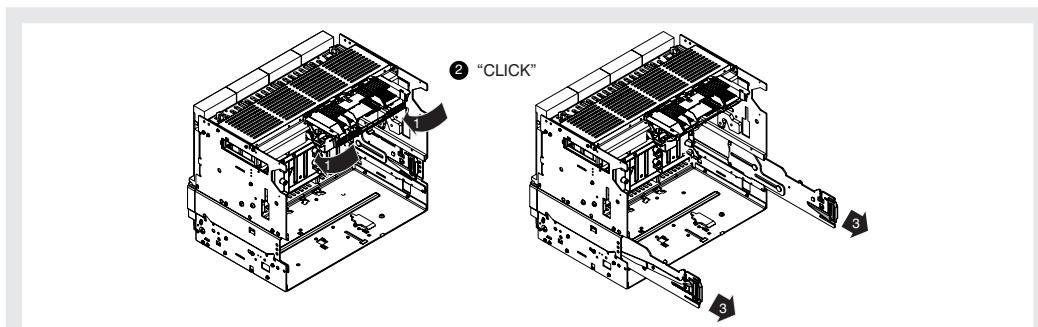

Figure 36
2. Extract the guides of the fixed part using the appropriate levers. See Figure 36.